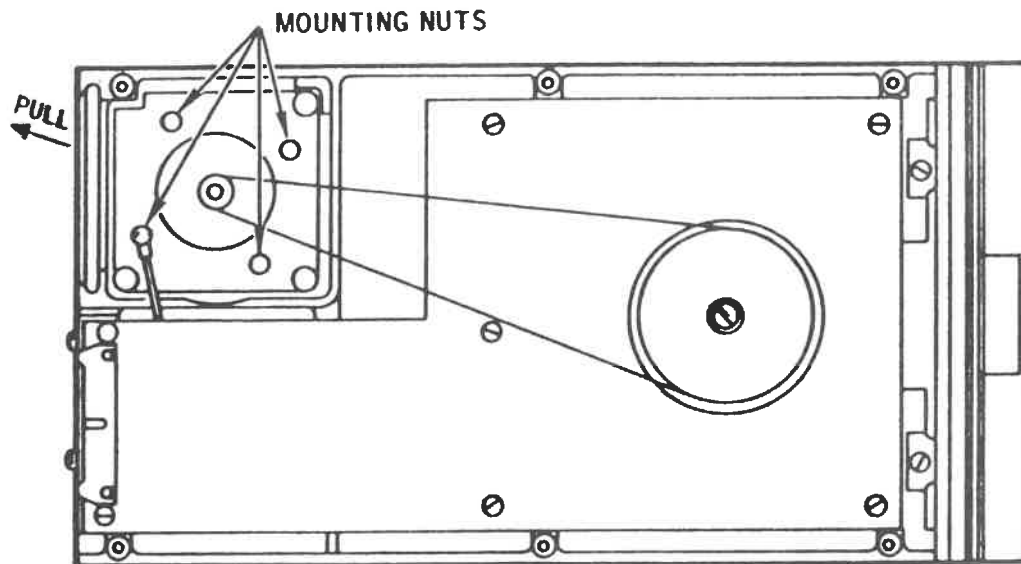

FIGURE 3-2. Drive Belt Check and Adjustment Points
3. Loosen the four drive motor mounting nuts shown in Figure 3-2.